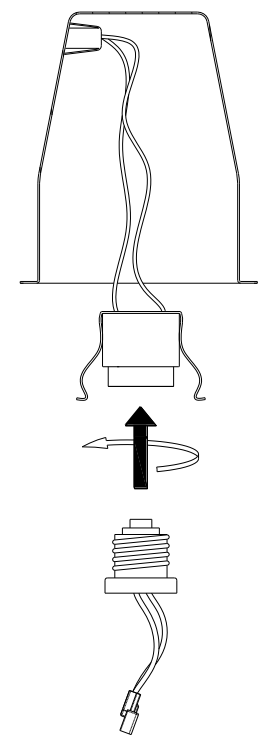

FIG. 2
- Thread the SOCKET ADAPTER into the SOCKET. (FIG. 2)